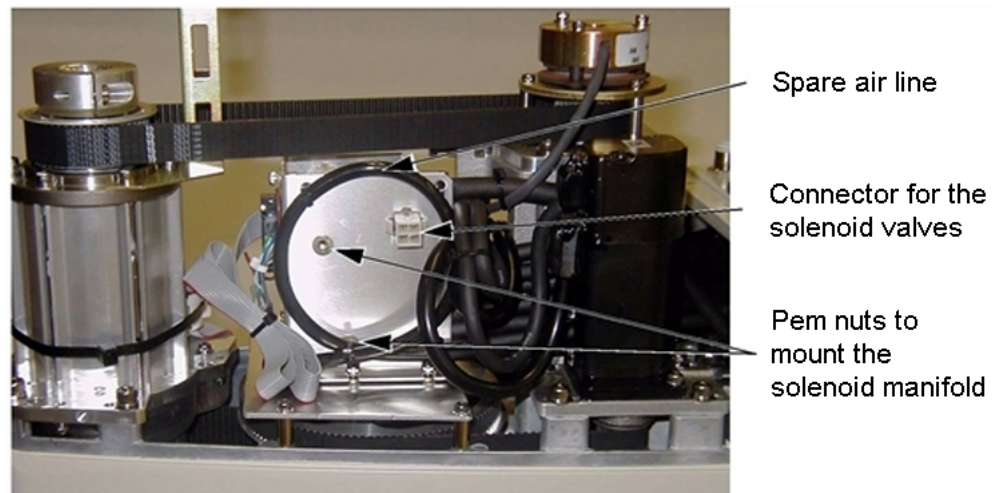

Figure 6-11. Solenoid Mounting Bracket with Connector and Spare Air Line
The robot has been pre-wired to accommodate a bank of two 24 VDC solenoid valves. Power for the internal mounting is accessible via a connector mounted inside the outer link cover (see Figure 6-11). The signals actuating the valves are directly switchable from the Adept ACE software using software signals 3001 and 3002.
4. Cut and discard the cable ties holding the spare air line at the top of the mounting bracket. Move the air line away to facilitate the mounting of the solenoid manifold (see Figure 6-11).